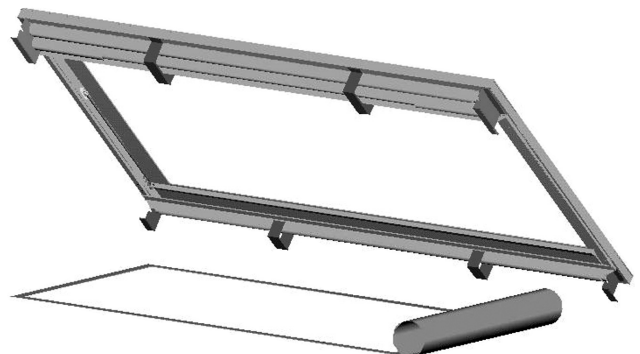

Figure 3
3. Allow the paper to unroll between backside of the screen surface and floor. See Figure 3.